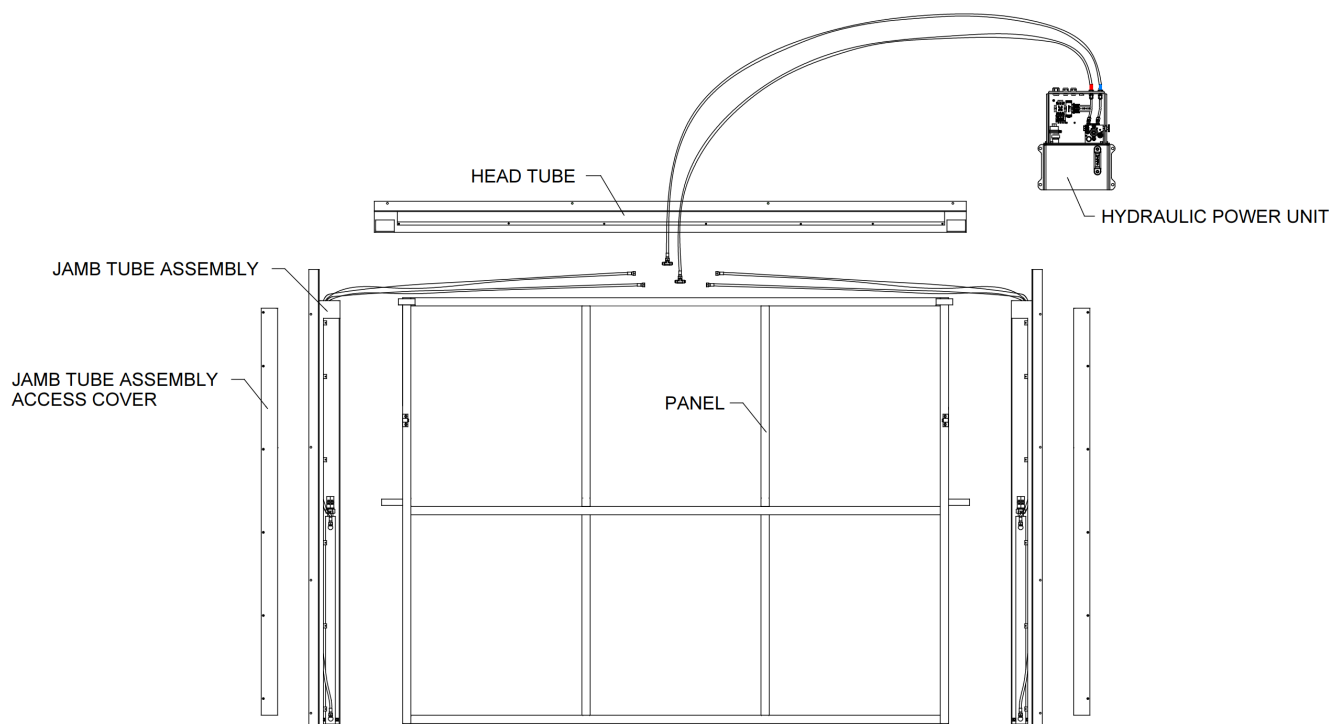

FIG. 1
- *If your 50/50 System is delivered disassembled, as per fig. 1, follows steps 1-4.*
Identify and lay out components, as per fig. 1, with the “interior” side facing up.